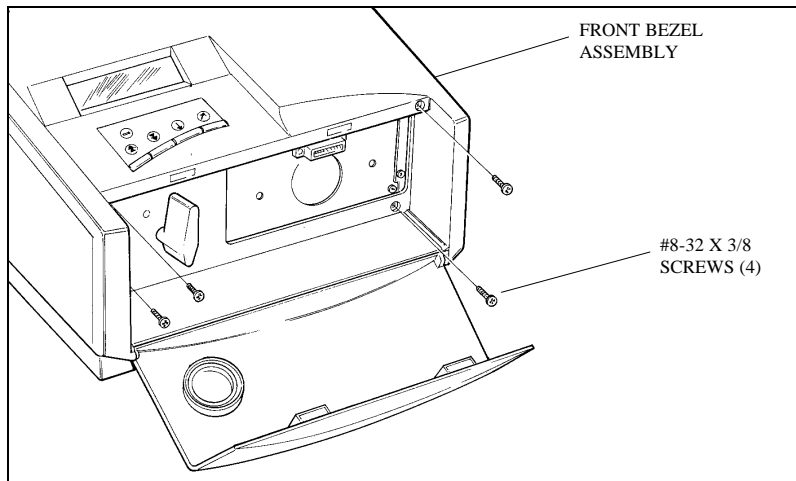

Figure 6-1. Removing the front bezel assembly
2. Remove the four 8-32 x 3/8 screws which secure the Front Bezel Assembly to the Camera Plate Assembly. (Figure 6-1)